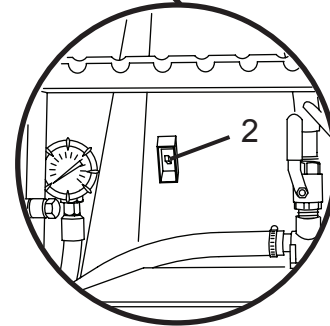

Figure 129
The hydraulic fold-over toggle switch (Figure 129, Item 1) enables the operator to fold or unfold the fold-over chute (Figure 129, Item 2) using a hydraulic cylinder.
3. Press and hold the fold-over toggle switch (Figure 129, Item 2) until the fold-over chute (Figure 129, Item 1) is fully seated against the main chute.
1. Press and hold the fold-over toggle switch (Figure 129, Item 2) until the fold-over chute (Figure 129, Item 1) is fully seated against the main chute.